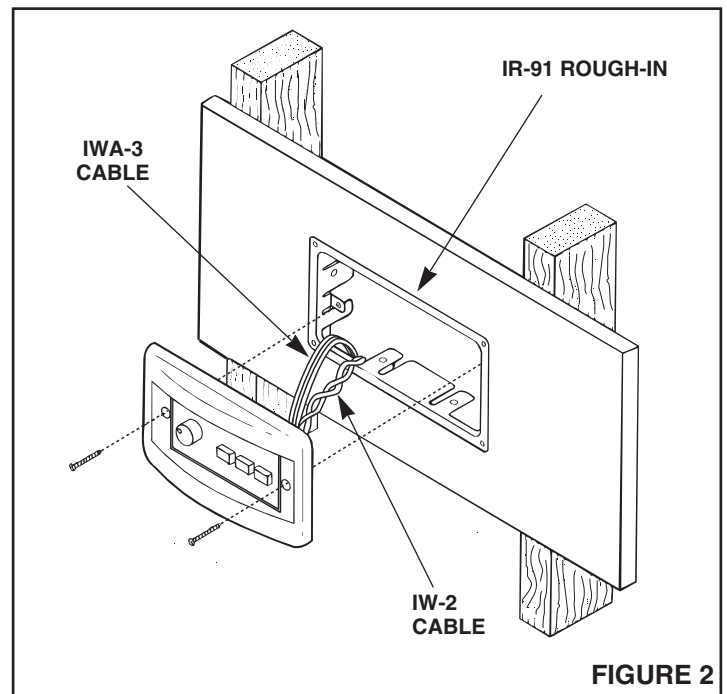

FIGURE 2
2. Refer to Figure 2. When finished wall is in place, secure the remote control to the rough-in with two (2) mounting screws (furnished.)